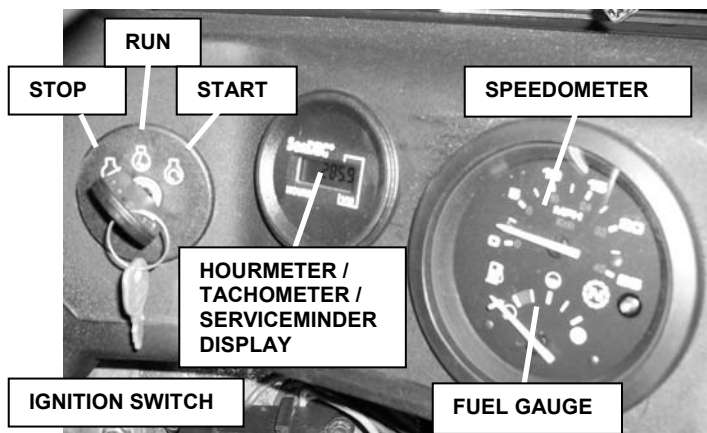

FIGURE 2.6
**2.2.10. Ignition Switch.** The ignition switch has three positions – Stop, Run, and Start. See Figure 2.6. Turn key and hold momentarily at “Start” position to crank the engine. After starting, release key to “Run” position. Turn key to “Stop” position to stop engine. Turning the key to the “Run” position will enable use of the headlights and the 12 volt accessory plug. However, when using the headlights or accessory plug, the engine should be running to prevent discharging the battery.
**2.2.11. Speedometer/Fuel Gauge Combo.** Both functions are contained within the one dial. See Figure 2.6. Speedometer measures ground speed of unit. Fuel gauge indicates amount of fuel in tank.
**2.2.12. Hourmeter/Tachometer/ServiceMinder Combo.** See Figure 2.6. With ignition off, LCD readout displays hours engine used. With engine started, readout displays RPM's. After first seven (7) hours of use, and every forty-nine (49) hours thereafter, the ServiceMinder displays a message indicating oil change is required. The message will be displayed for two (2) hours, and will continue even if oil is changed within the two hour period. After two hours, *whether oil is changed or not*, display will revert back to hourmeter/tachometer function.